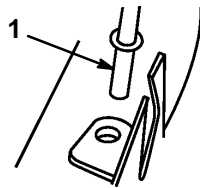

Figure 34
- Insert the chute support rod through hole in the right side of the deck (Fig. 34).